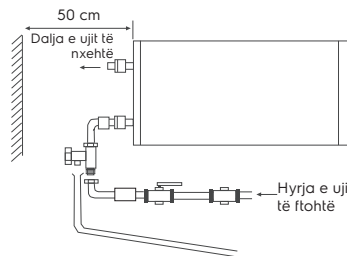

Figure 8
6. Installation of water heaters of Fmx, Fmx DL series is greatly facilitated by the ability to install them both vertically and horizontally anywhere in your house, in a heated room. It is advisable to install the water heater as close as possible to the point of use of hot water, since the shorter the pipes, the less heat loss is. When installing the water heater horizontally, the supply pipes must be located on the left. When installing the water heater next to a wall, leave the recommended clearance for maintenance. Do not install the water heater on a horizontal surface and close to the floor. (see Fig. 8)